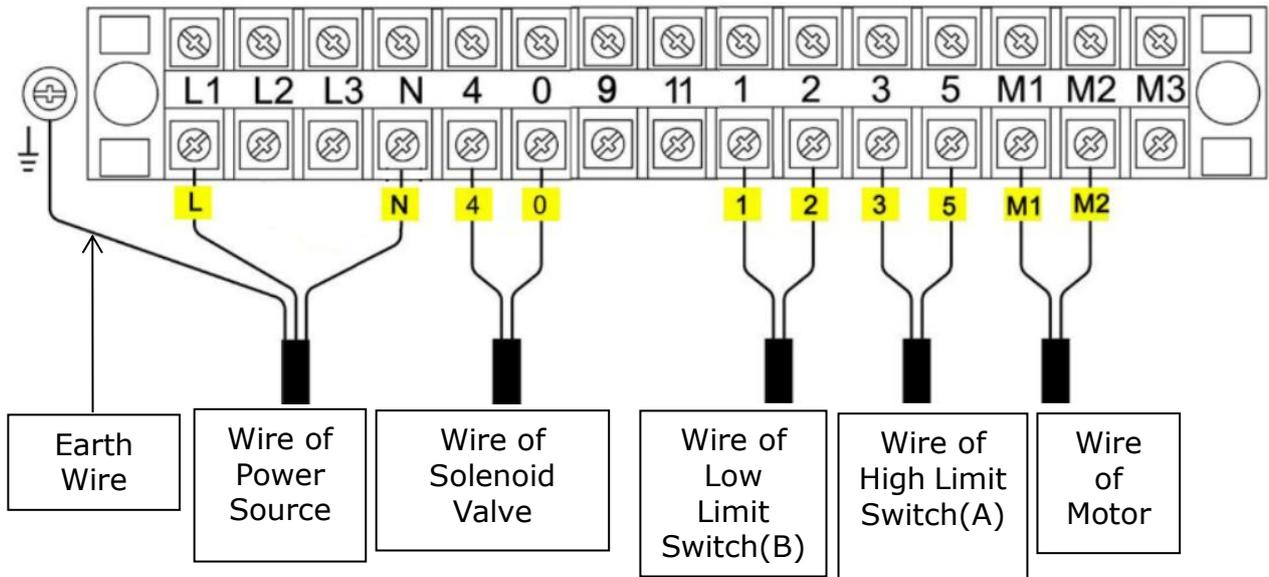

Fig.11
1. Connecting the power supply wires and limit switch wires. (Fig.11)